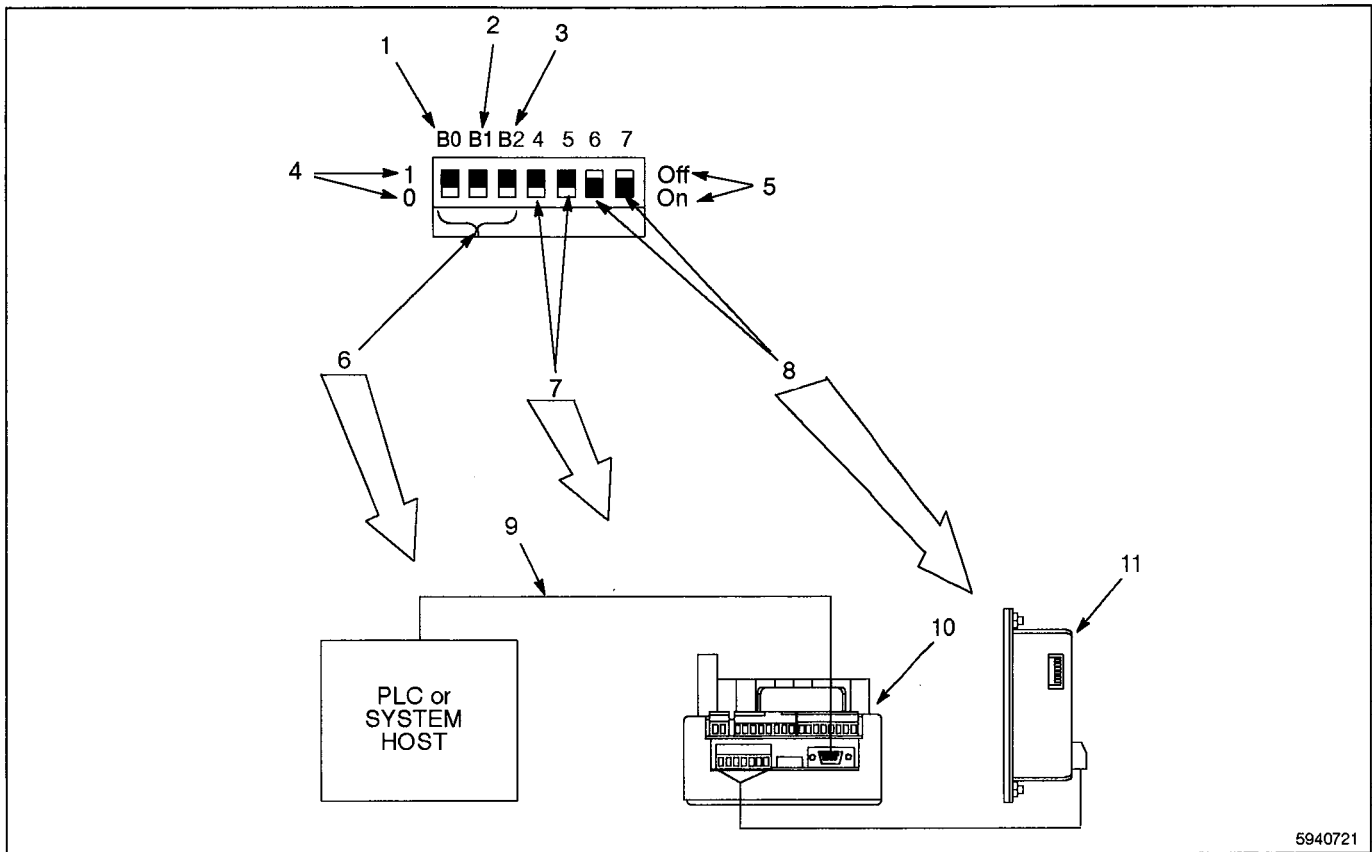

Fig. 3-25 Controller DIP Switch Identification
The keypad and controller DIP switch is shown in Figure 3-25.
4. Verify the controller DIP switches 6 and 7 are set to ON, as shown in Figure 3-25.